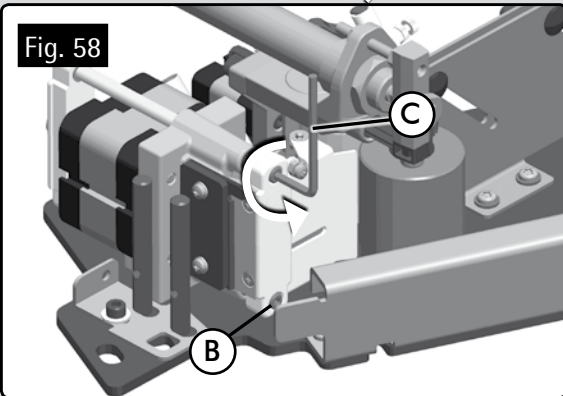

Fig. 58
- Remove the screws and washers B (Fig. 58), using the service key C (Fig. 58)